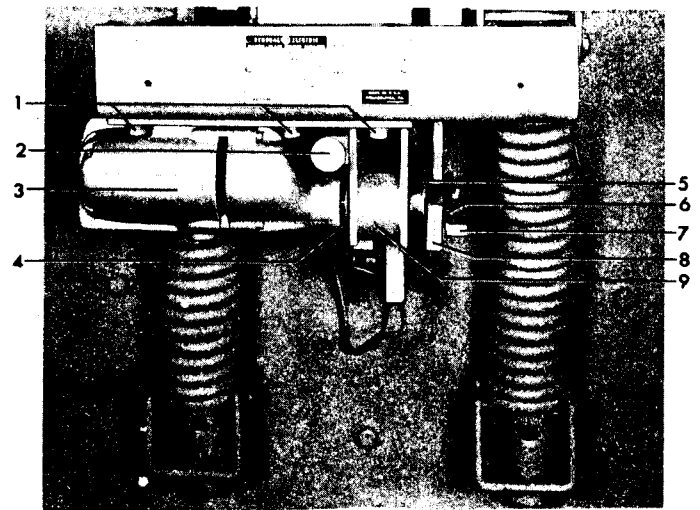

Figure 15. (8040931) Driving Elements
If adjustment is required for either pawl the springs must first be fully charged and blocked. Loosen seven motor support bolts (1) Figure 15, and move entire motor assembly to the rear if the clearance is under the minimum at the latching pawls, and to the front if the clearance is under the minimum at the driving pawl. Move the motor assembly approximately twice the dimensional increase required at the pawl. Be certain the motor assembly is moved straight forward or rearward and tighten the one bolt on the right side of the mounting frame first to assure proper alignment. After tightening the remaining bolts the springs should be released and the clearance again checked as described above.